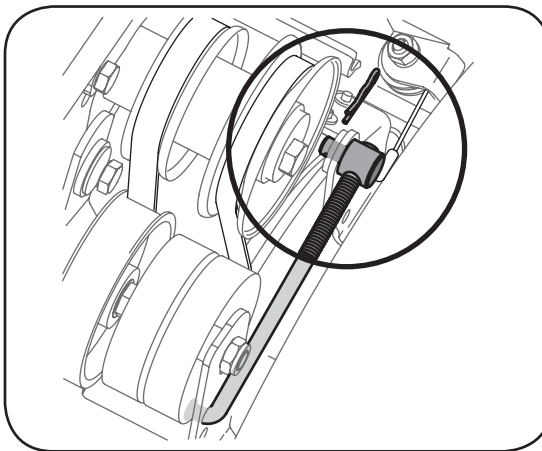

Figure 6-6
4. Remove the clip and flat washer from the ferrule in order to disconnect the auger idler rod from the brake bracket assembly. See Figure 6-6.
1. To adjust, disconnect ferrule from brake bracket assembly and thread ferrule in (towards idler) to increase tension on belt, and out to decrease tension. See Figure 6-6.